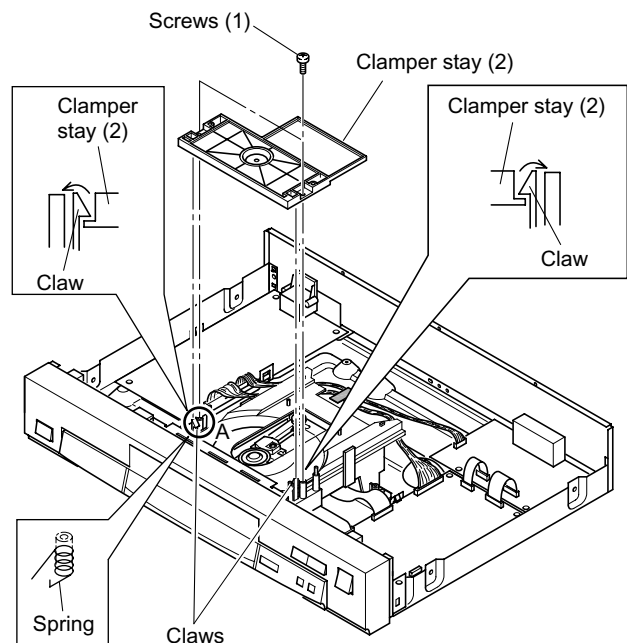

Fig. 2-1-2
1. The spring for tray side pressure is inserted into the portion "A". (Refer to Fig. 2-1-2.)